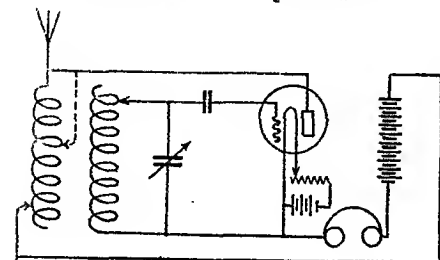

FIG. 1
One form of the cell is shown in Fig. 1. The glass bulb contains a platinum ring on an arm, as an anode (A), and one half of the bulb has been silvered, making a hemi-spherical mirror. The tube is highly exhausted on a mercury pump, and then a small quantity of a pure alkali metal (sodium, potassium, etc.) which has been included in a small well in the tube (B) is carefully distilled onto the silver mirror. This is accomplished by having a heating coil which heats all the glass to above the condensation temperature of the alkali, except that portion where the metal is to be deposited, which in this case is of course the silver mirror. That portion of the cell is kept cold by means of a water bath in order to hasten the condensation of the metal. The most sensitive cells are those in which the metal has been deposited on
THERE seems no end to innovations in undamped circuits. In Figure 1 is presented an idea for an oscillating hookup which may be employed to advantage by those of our readers who possess "Jumbo"